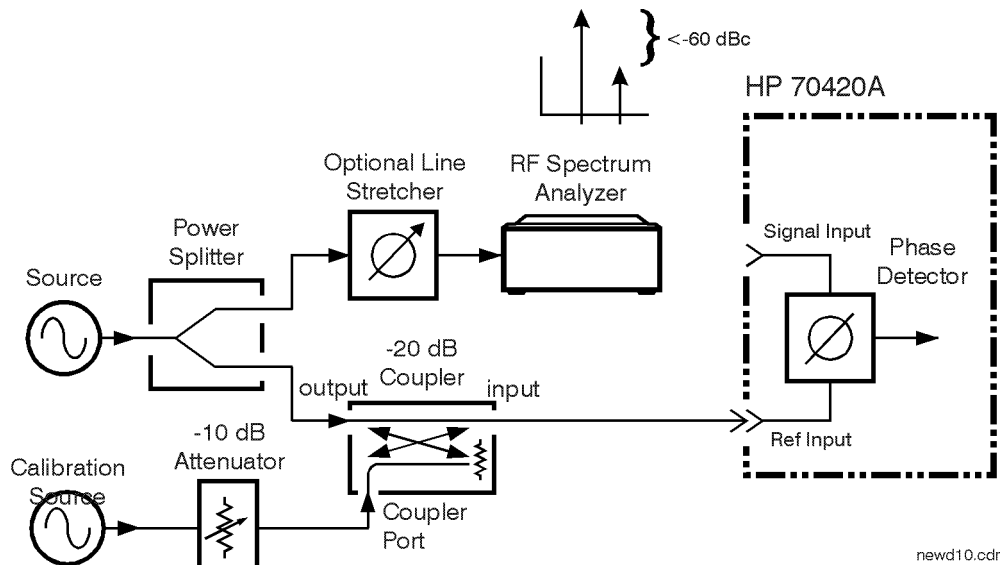

Figure 8-18 Carrier-to-spur Ratio of Non-modulated Signal
- 4 Measure the carrier-to-spur ratio of the non-modulated side of the phase detector (Figure 8-18). It must be at least 20 dB less than the spur ratio of the modulated port. This level is necessary to prevent cancellation of the modulation in the phase detector. Cancellation would result in a smaller phase detector constant, or a measured noise level that is worse than the actual performance. The isolation level is set by the port-to-port isolation of the power splitter and the isolation of the -20 dB